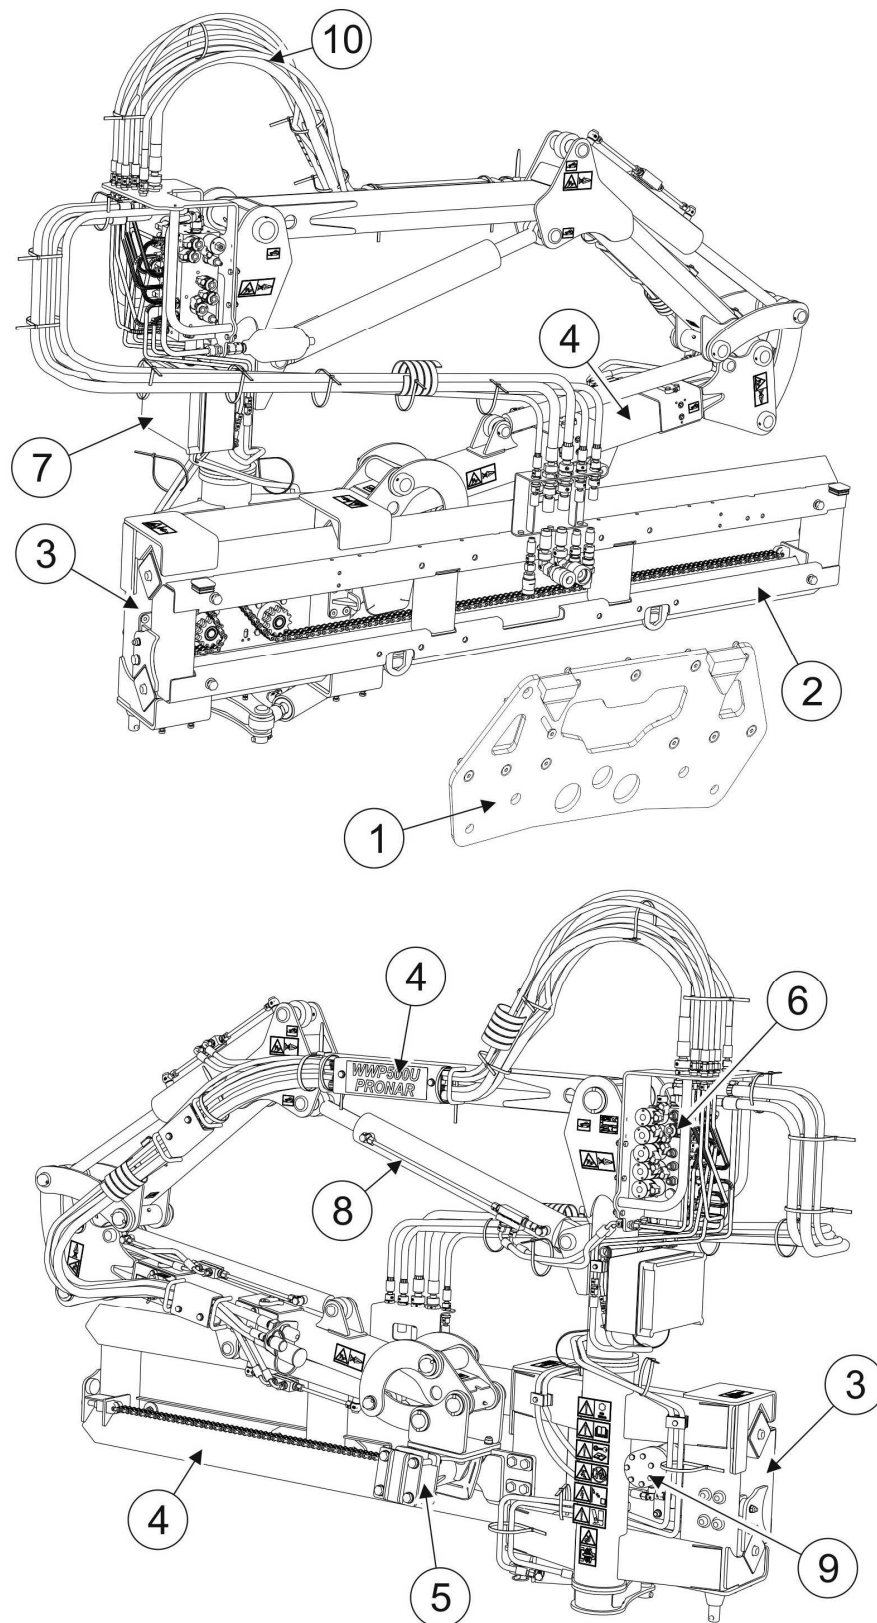
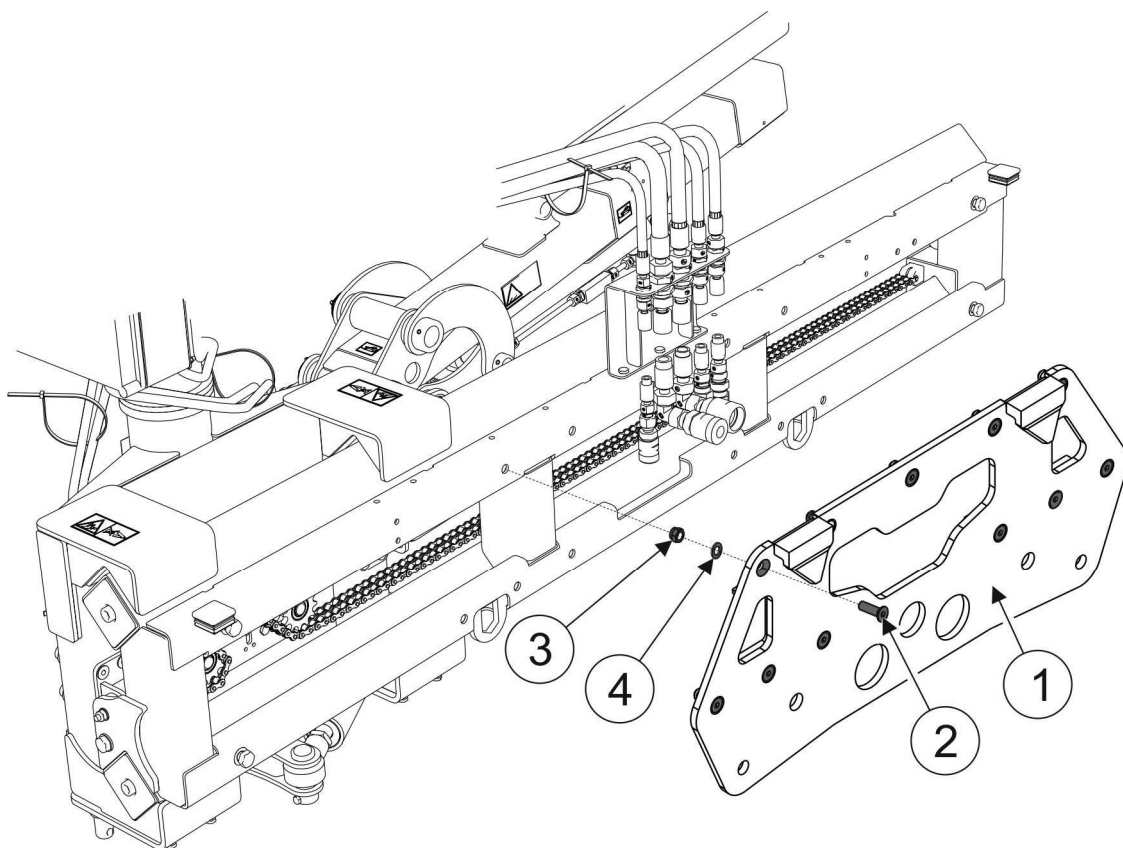

FIG. 3.1 General design
FIG. 3.2 Adapter plate
(1)- adapter plate; (2)- bolt; (3)- nut; (4)- washer
The main component of the multifunction arm's linkage (FIGURE 3.2) is adapter plate PM02 (1) that is used for hitching the multifunction arm to the front linkage of „UNIMOG U400 / U500” universal carrying vehicle. The adapter plate is bolted to guide (2) (FIGURE 3.1) of